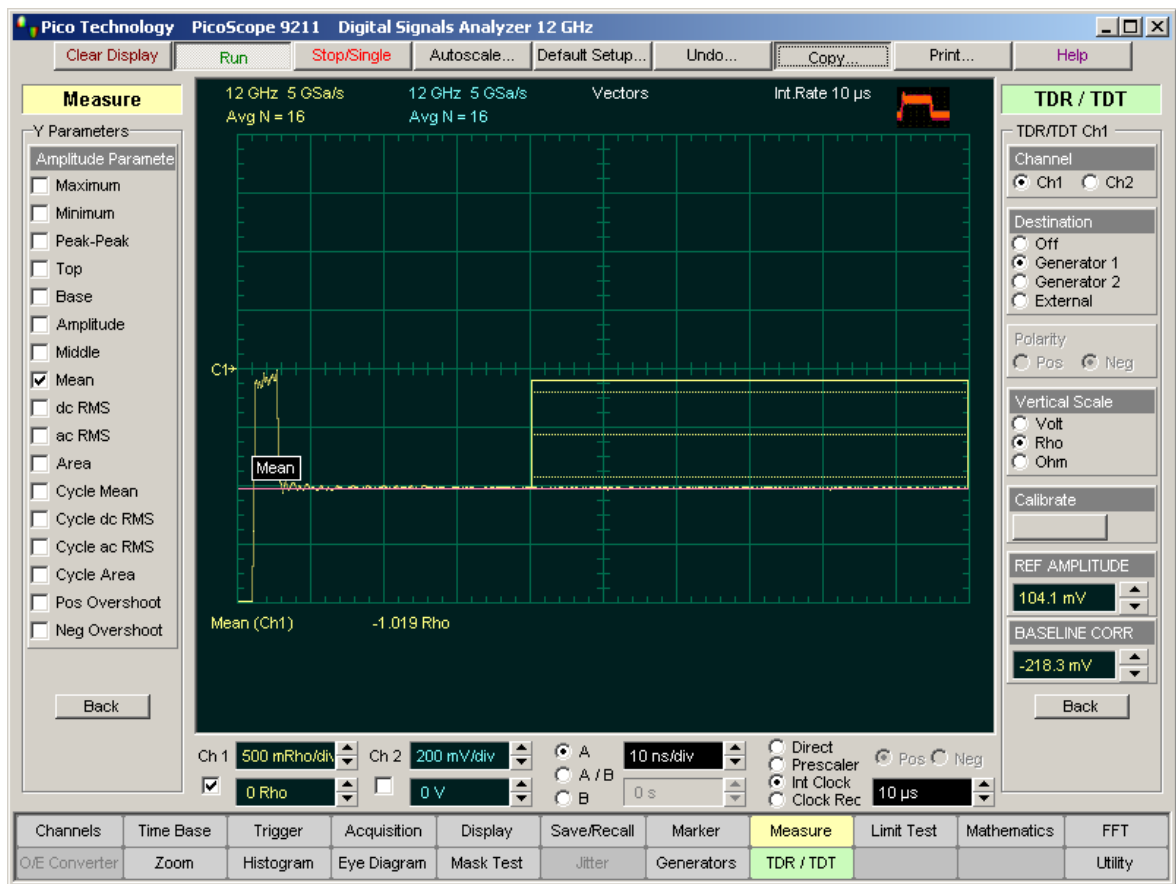

Figure 4
5. Connect a short termination. See Figure 4.
Fig. 4 shows that the rho value is near -1 rho when transmission line is shorted. The **Mean** measurement shows -1.019 rho.